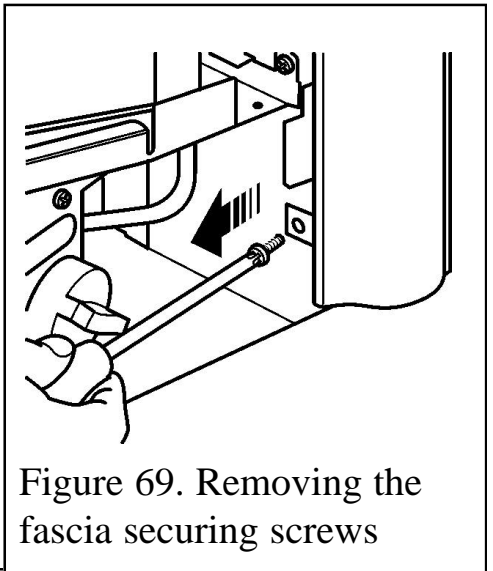

Figure 69. Removing the fascia securing screws
2. Remove the two screws securing the bottom of the fascia to the sides of the hotbox (See figure 69).